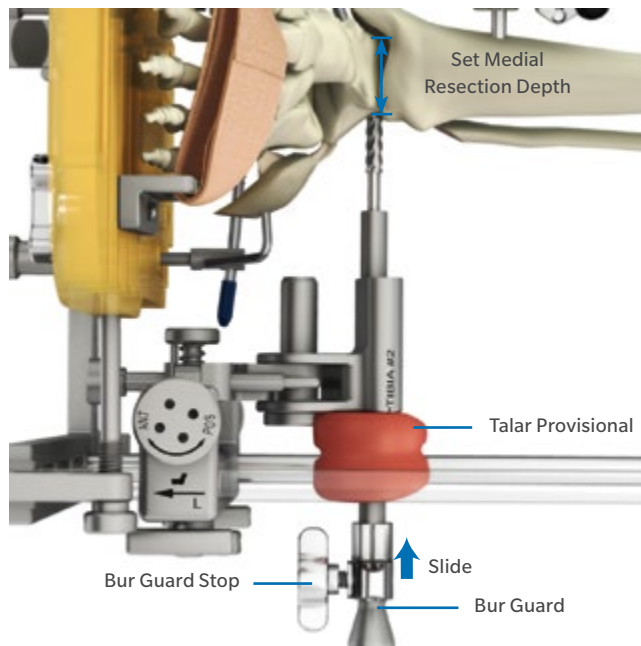

Fig. 49
- Set the position of the Bur Guard Stop (Fig. 49).